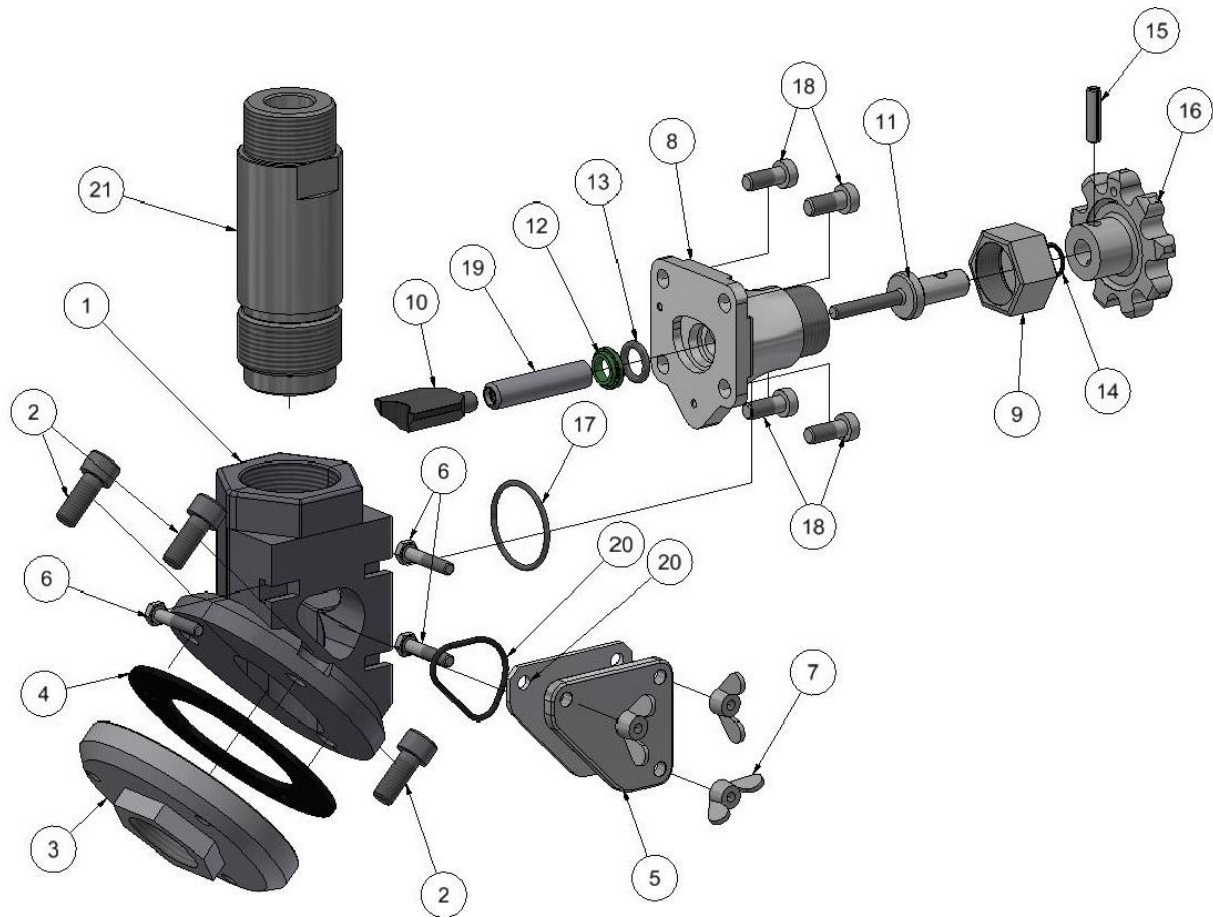

Figure 1: Spare parts list
Figure 1 shows the components of the Quantum-K valve.
2. Turn the metering knob (see figure 1, Pos. 16)